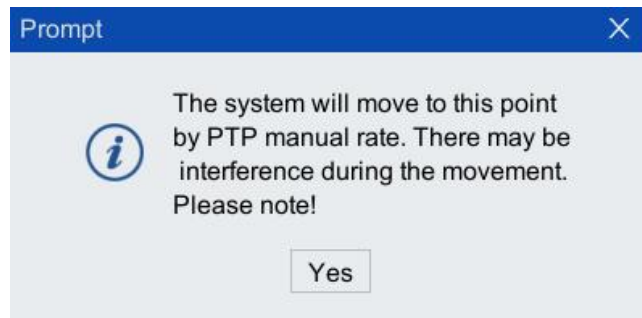

Figure 5-97 "Prompt" Box
Step2. Then click the <Move> button, as shown in Figure 5-97, "The system will move to this point in manual override PTP mode. There may be interference during the movement, please pay attention!" "Prompt" box. After clicking <Yes>, the robot starts to move. At this time, the display of the <Move> button immediately changes to <Stop>. If there is interference during the movement, you can directly click the <Stop> button to stop the movement, and wait until the robot moves to the selection After the selected point, the <Stop> button returns to the <Movement> button.